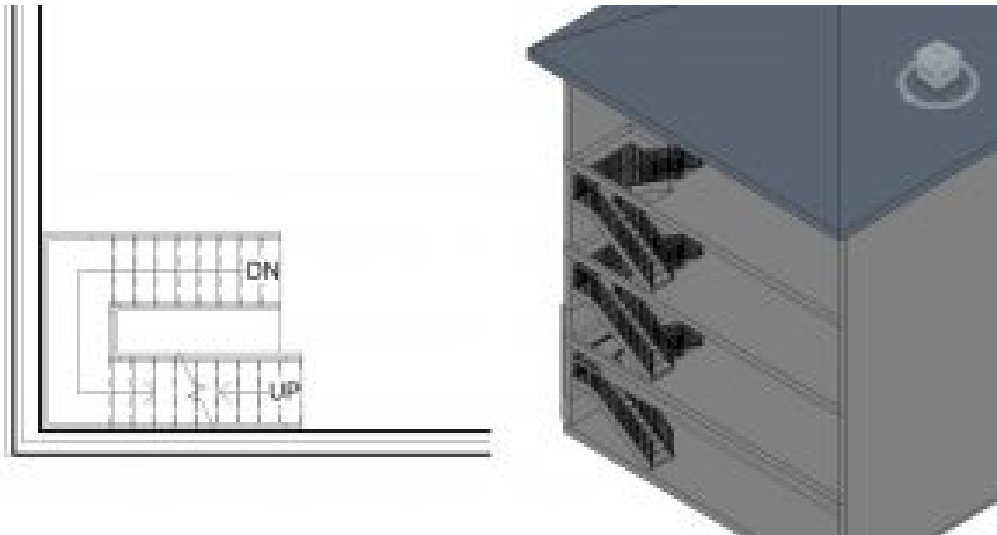

Figure 4.4 Assembly stair in plan view and in 3D view
5. Click to begin the stair as shown in Figure 4.4